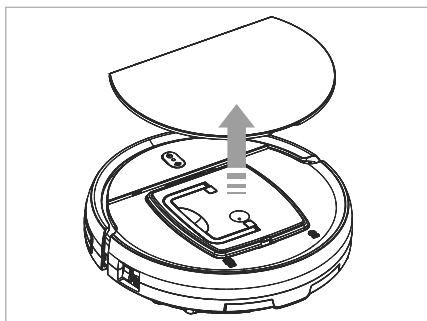

Fig. 7
- Remove the cover **15** of the dust container **14** and pull it out of the appliance by the handle (see Fig. 7 and 8).